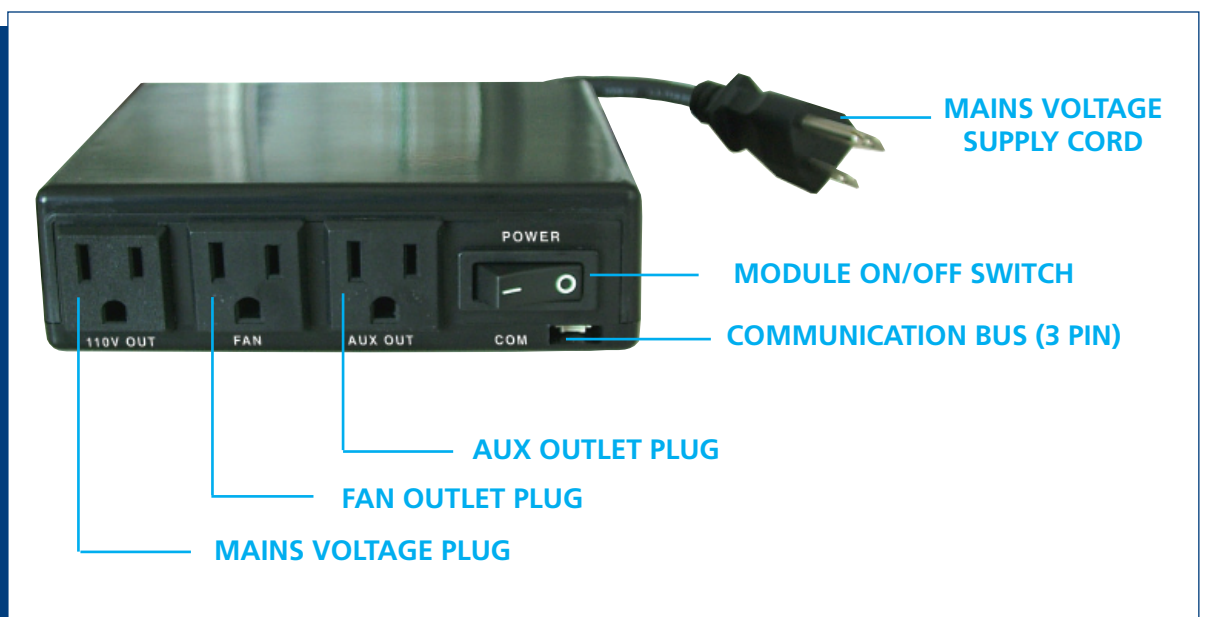

Fig. 4: Fan Control Module.
Fan Control Module (FCM) offers the added ability to control the fan speed from off through six (6) speeds, a remotely actuated 120V outlet, and a constantly powered 120V outlet. The FCM provides DC power to the receiver allowing the batteries to be used only in the event of line power loss (Fig.4).